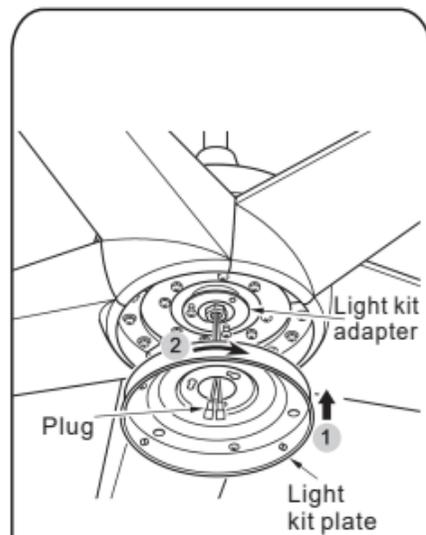

Fig.20
Step 2: Slide the light kit plate up towards the light kit adapter and place the key holes over the screws on the light kit adapter. Turn light kit plate until it locks in place at the narrow section of key holes.(Fig. 20)